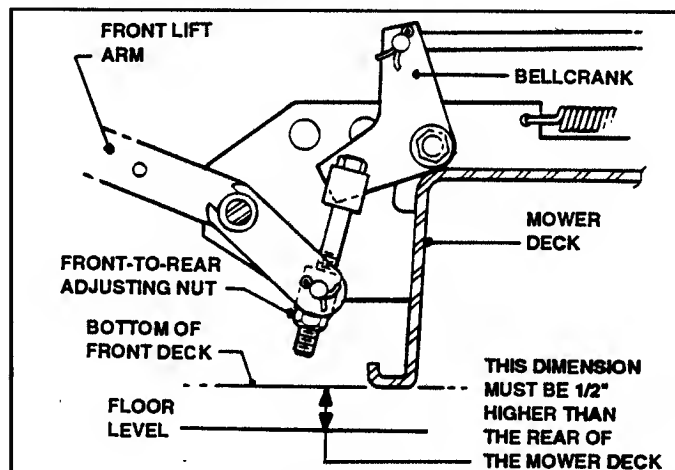

FIGURE 45
- B. After measuring dimensions under front and rear of mower deck, turn the front-to-rear adjusting nut until the front of the deck is $\frac{1}{2}$ " higher than the rear. See Figure 45.